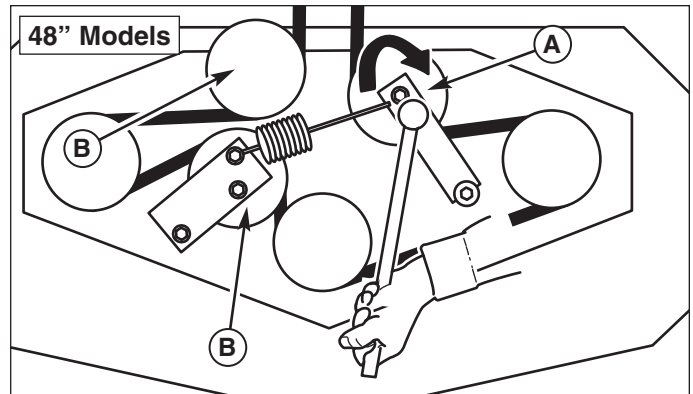

Figure 13. Mower PTO Belt
4. If the belt is not properly seated, use a 1/2" breaker bar, and place the square end in the square hole located in the end of the idler arm (A, Figure 13). Carefully rotate the breaker bar CLOCKWISE, which will relieve the tension on the belt exerted from the idler arm.